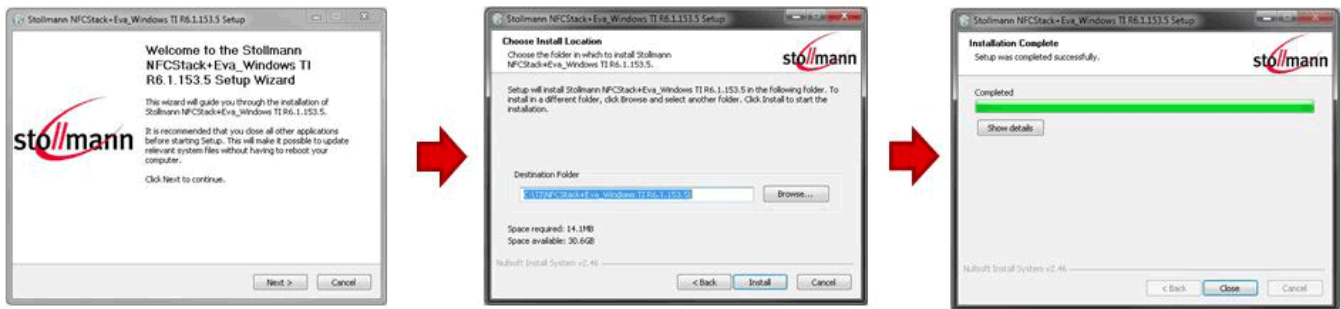

Figure 20.
2. Follow the instructions of the installer, as shown in Figure 20.